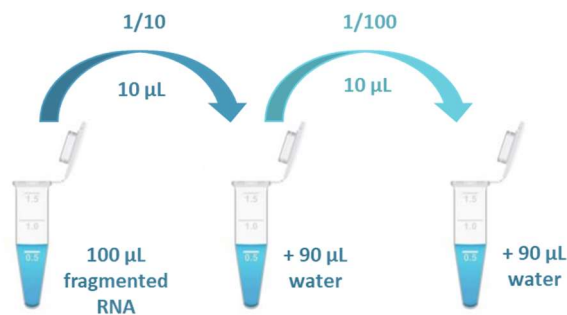

Figure 4 - Dilution series of 100- μL RNA eluates for use of the CARLA kit with Protocol B
- For each fragmented RNA tube, prepare two new 1.5 mL tubes and perform dilutions 1/10 and 1/100 with Molecular Biology Grade Water (Figure 4).